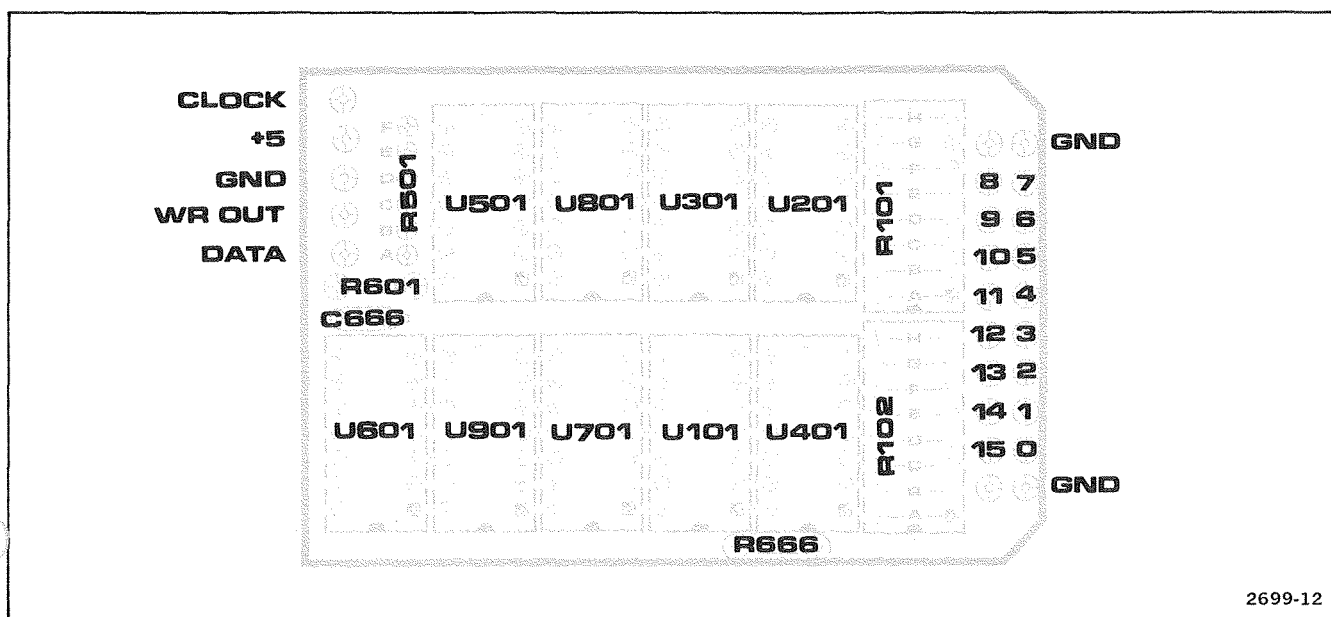
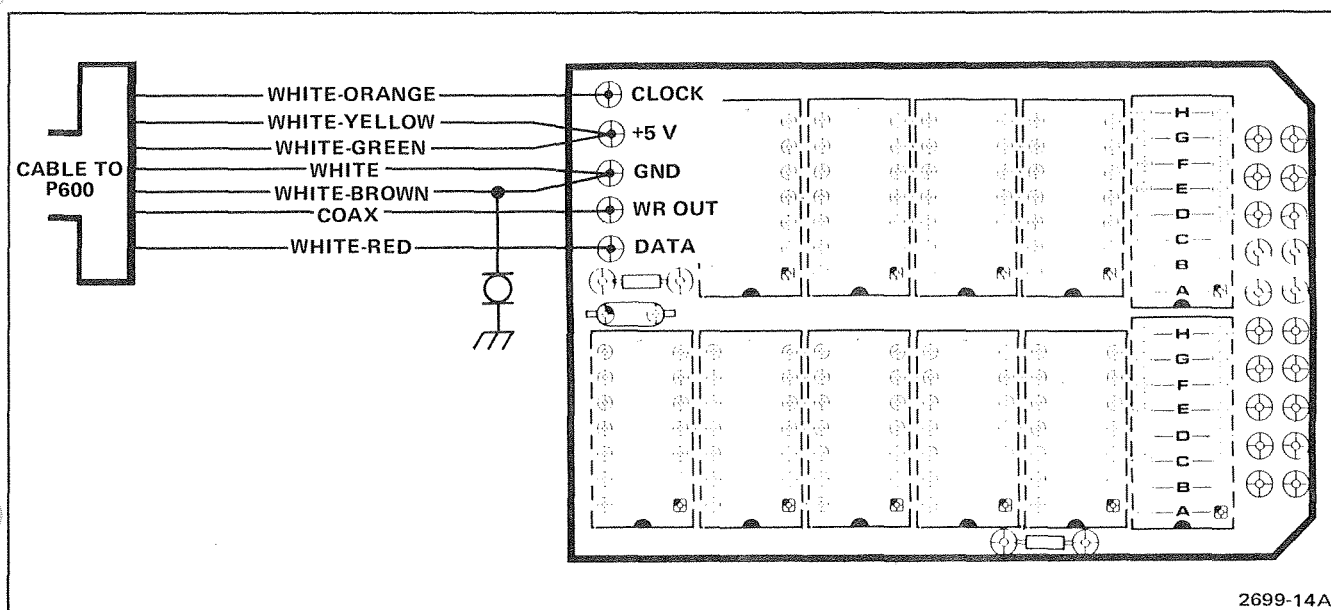
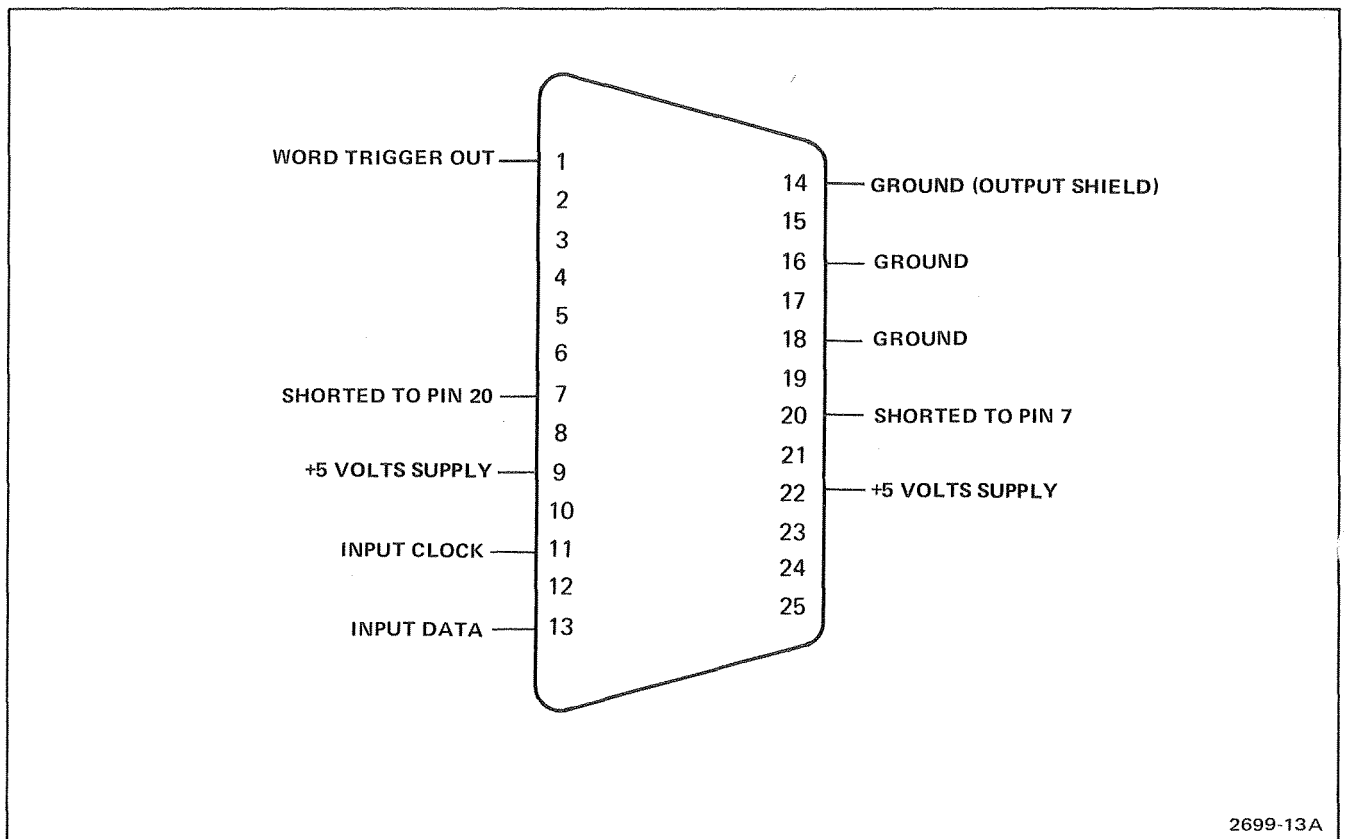

Figure 10. Component locations on the circuit board.
Figure 11. Probe head cable connections.
Figure 12. Probe output connector pin assignment (end view).
2. While pulling apart the two halves of the probe body, note which half of the body covers which side of the circuit board. See Figure 10 for component locations on the circuit board. Figure 11 shows probe head cable connections. Figure 12 shows probe output connector pin assignment (end view).